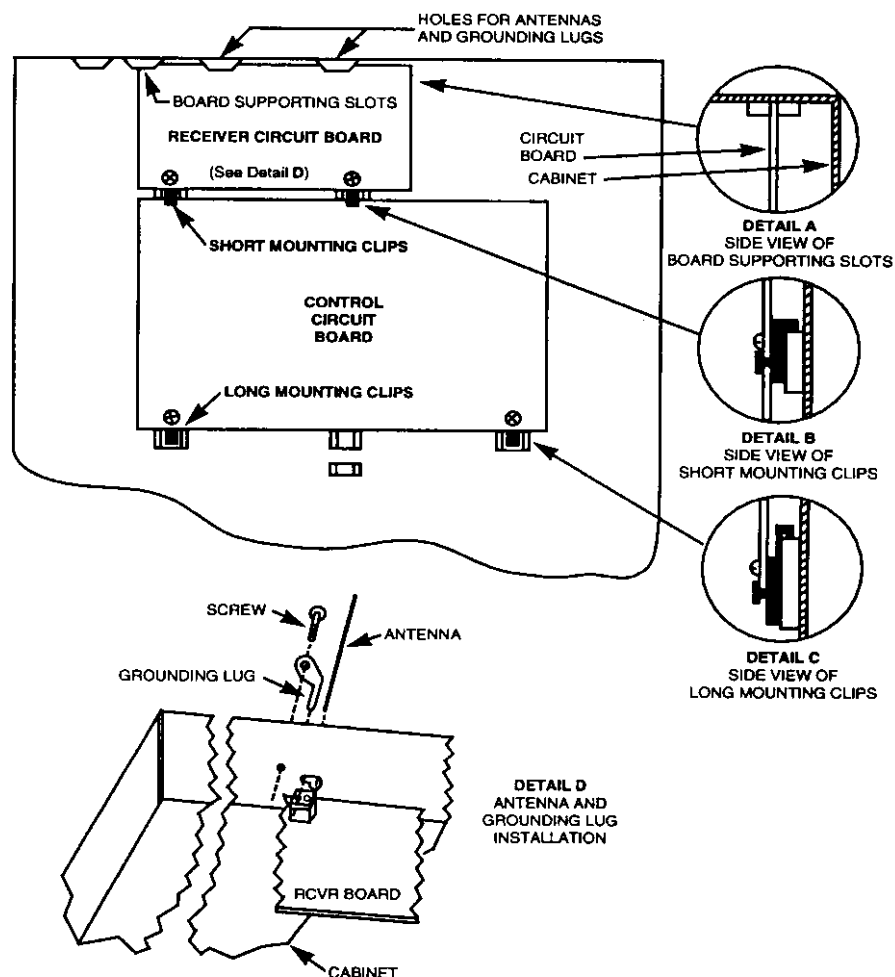

Figure 1: Installing the Receiver Board in the Control's Cabinet
2. **If the receiver is to be mounted within the control's cabinet (refer to Figure 1):**
- c. Hang two short (black) mounting clips (provided with the receiver) on the raised cabinet tabs in the cabinet, as shown in Detail B of Figure 1.